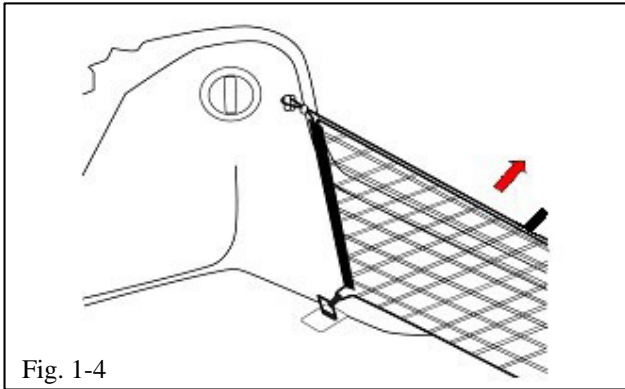

Fig. 1-4
- ⚠ (e) Confirm the completed assembly is installed correctly. Make sure the net handle is facing toward the outside of the vehicle (Fig. 1-4).